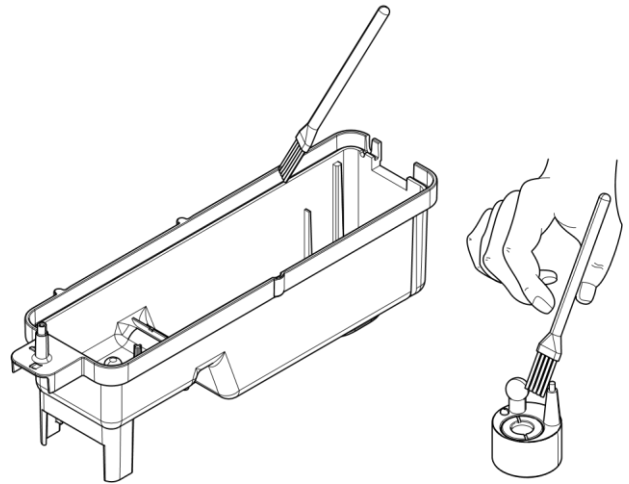

Fig 8
15. Clean the Nozzle with the brush and flush out thoroughly with water. (See Fig.8)